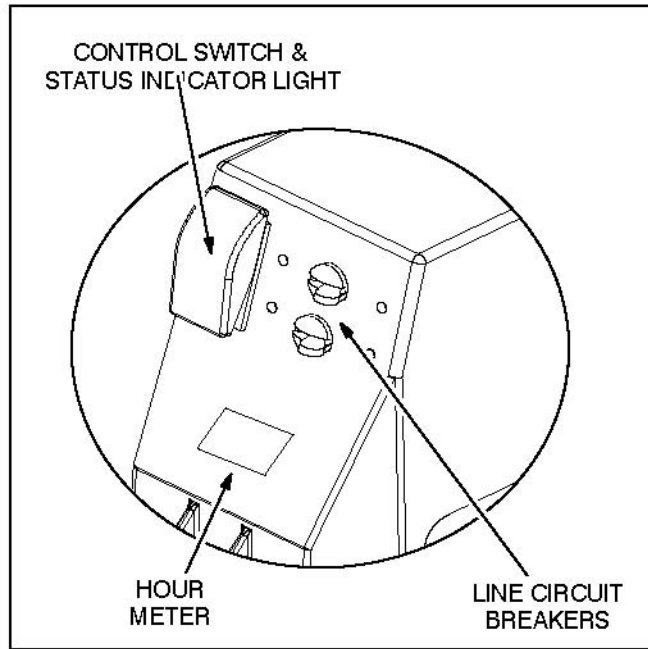
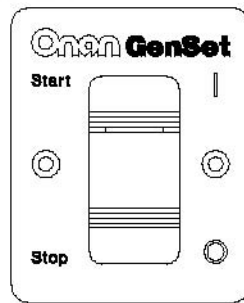

FIGURE 3. GENSET CONTROL PANEL
FIGURE 4. REMOTE SWITCH
The genset control panel (Figure 3) is located behind the maintenance access cover (Figure 4) and has the following features:
- Remote switch / status lamp (Figure 4).